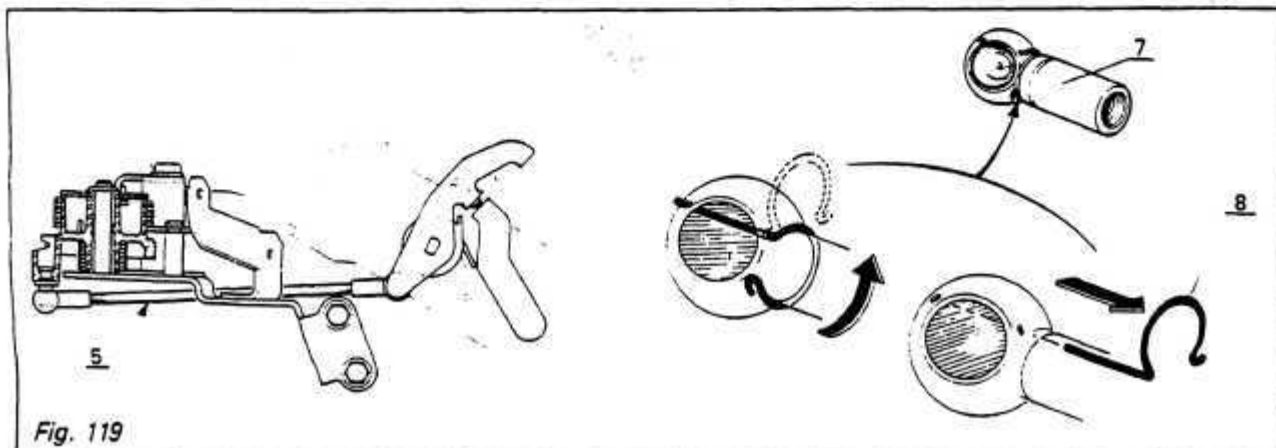

Fig. 119
Disconnect arm (5) (Fig. 119) from the throttle linkage ball as follows: —
The throttle arm ball joint, locking it correctly with the clip (8) (Fig. 119)